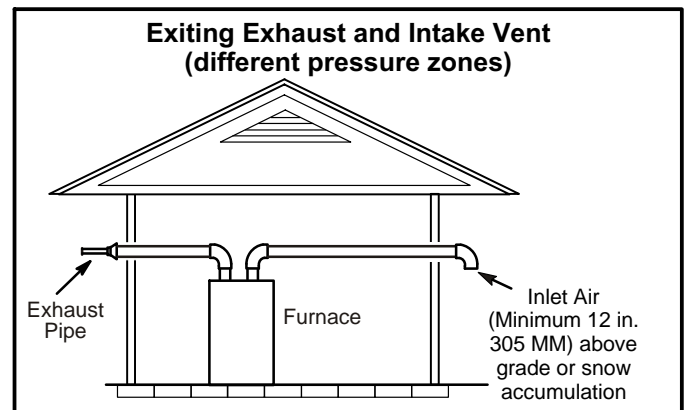
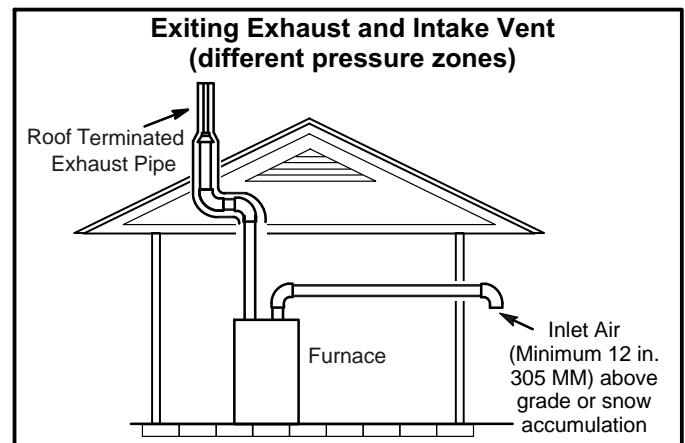

FIGURE 30
FIGURE 31
1. Intake and exhaust terminations are not required to be in the same pressure zone. You may exit the intake on one side of the structure and the exhaust on another side (figure 30). You may exit the exhaust out the roof and the intake out the side of the structure (figure 31).